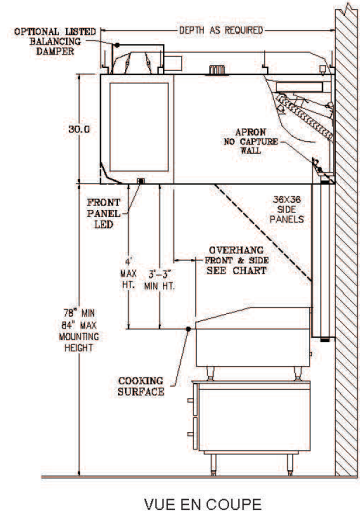

Figure 6-4-1 Listed Minimum Airflows and Overhangs
It is important that at initial installation of the ventilator the exhaust volume is measured to verify that it meets design. It is also recommended that the exhaust volume be measured once every two or three years to ensure that the exhaust fan is operating properly. The exhaust volume for each ventilator section is stamped on the ventilator nameplate (refer to Figure 6-4-1).
14. Compare this Total Exhaust with the "Min. Suggested Total Exhaust Volume for This Section" stamped on the ventilator nameplate and proceed to step 17 (Refer to Figure 6-4-1).